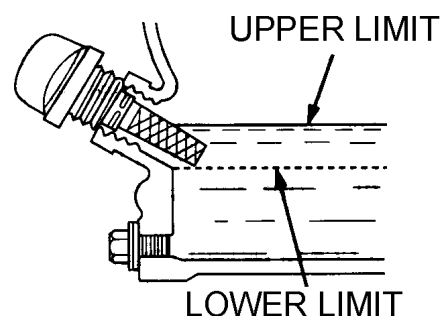

Figure 11. Engine Oil Dipstick (Oil Level)
4. If the oil level is low (Figure 11), fill to the edge of the oil filler hole with the recommended oil type (Table 5). Maximum oil capacity is 1.16 quarts (1.1 liters).